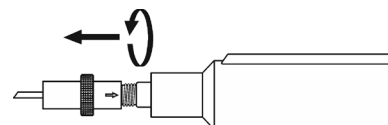

Fig. 5
- Remove the ultrasonic tip according to fig 5:
- Remove the ultrasonic tip according to fig. 5: